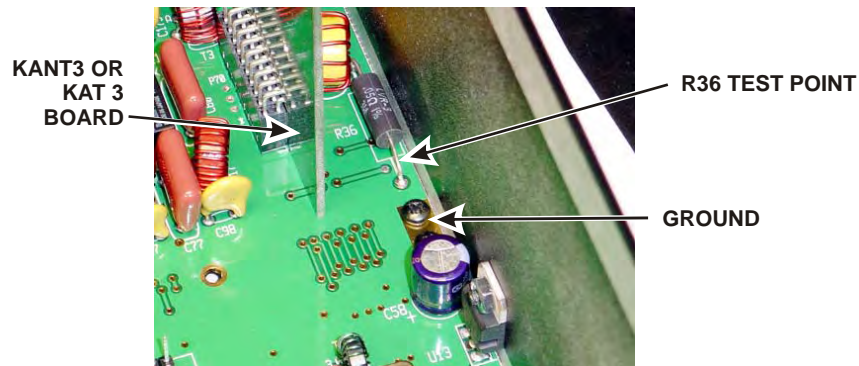

Figure 54. R36 Test Point.
- Use your DMM to measure the resistance between the end of R36 and ground at the exposed copper around the screws for the 2D fastener (see Figure 54). The resistance must be greater than 150 ohms.